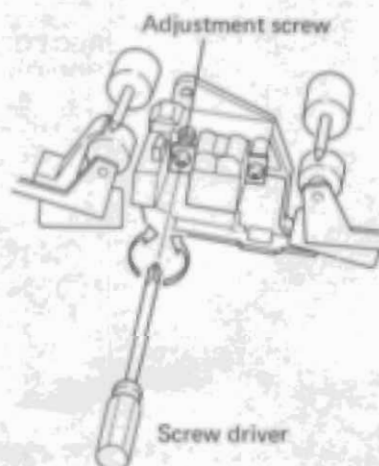

Fig. 9-2 Head azimuth adjustment
3. Replay the  $-20\text{dB}$  part of the  $10\text{kHz}$  test tone on the STD-341A test tape. Turn the head azimuth adjustment screw until the output from both L and R channels becomes a maximum (Fig. 9-2).